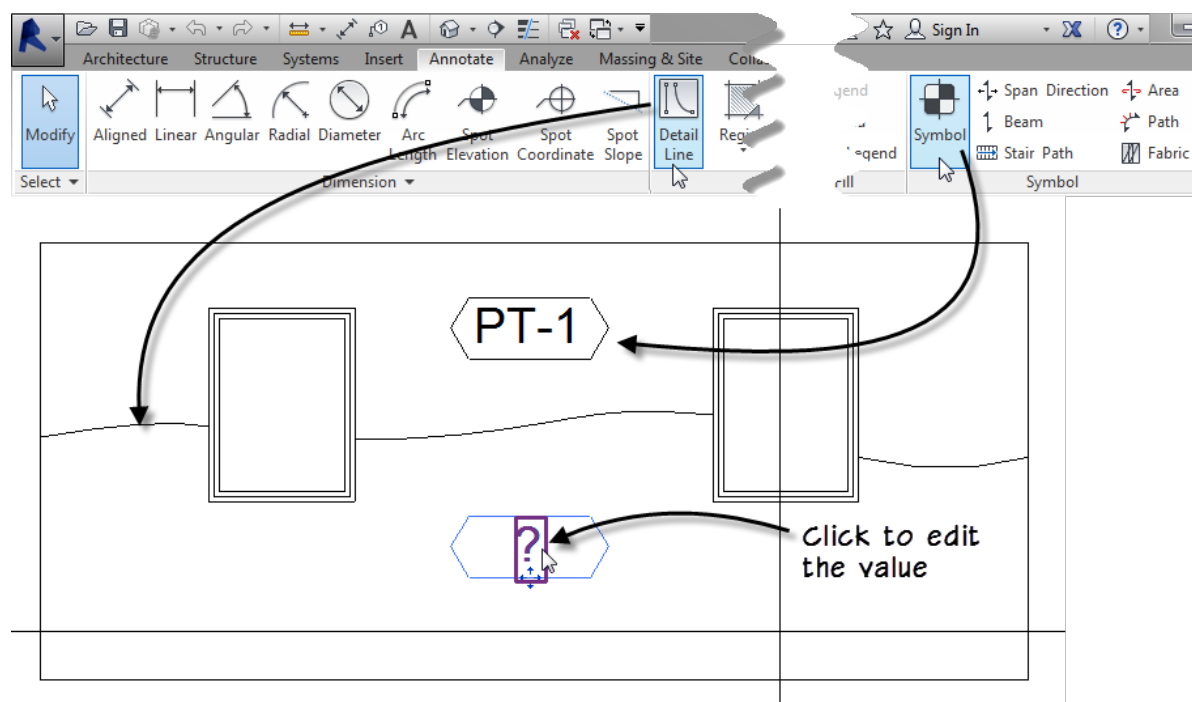

Figure 22 – Add Symbols and edit the values onscreen
11. On the Annotate tab, click the Symbol tool. Use the Detail Line tool to draw any finish boundaries as required (see Figure 22).